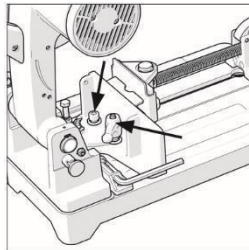

Fig.8
- Loosen the M10 socket headed screw and the lever handled locking screw. **(Fig. 8)**